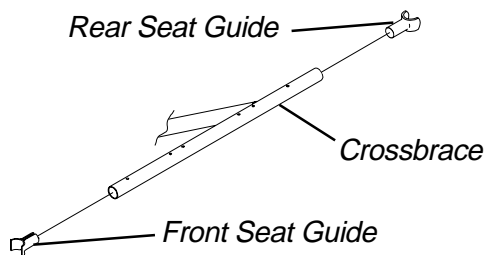

FIGURE 5 - ALL PERMANENT ARM WHEELCHAIRS
1. Perform one (1) of the following:
- ALL PERMANENT ARM WHEELCHAIRS (FIGURE 5).**